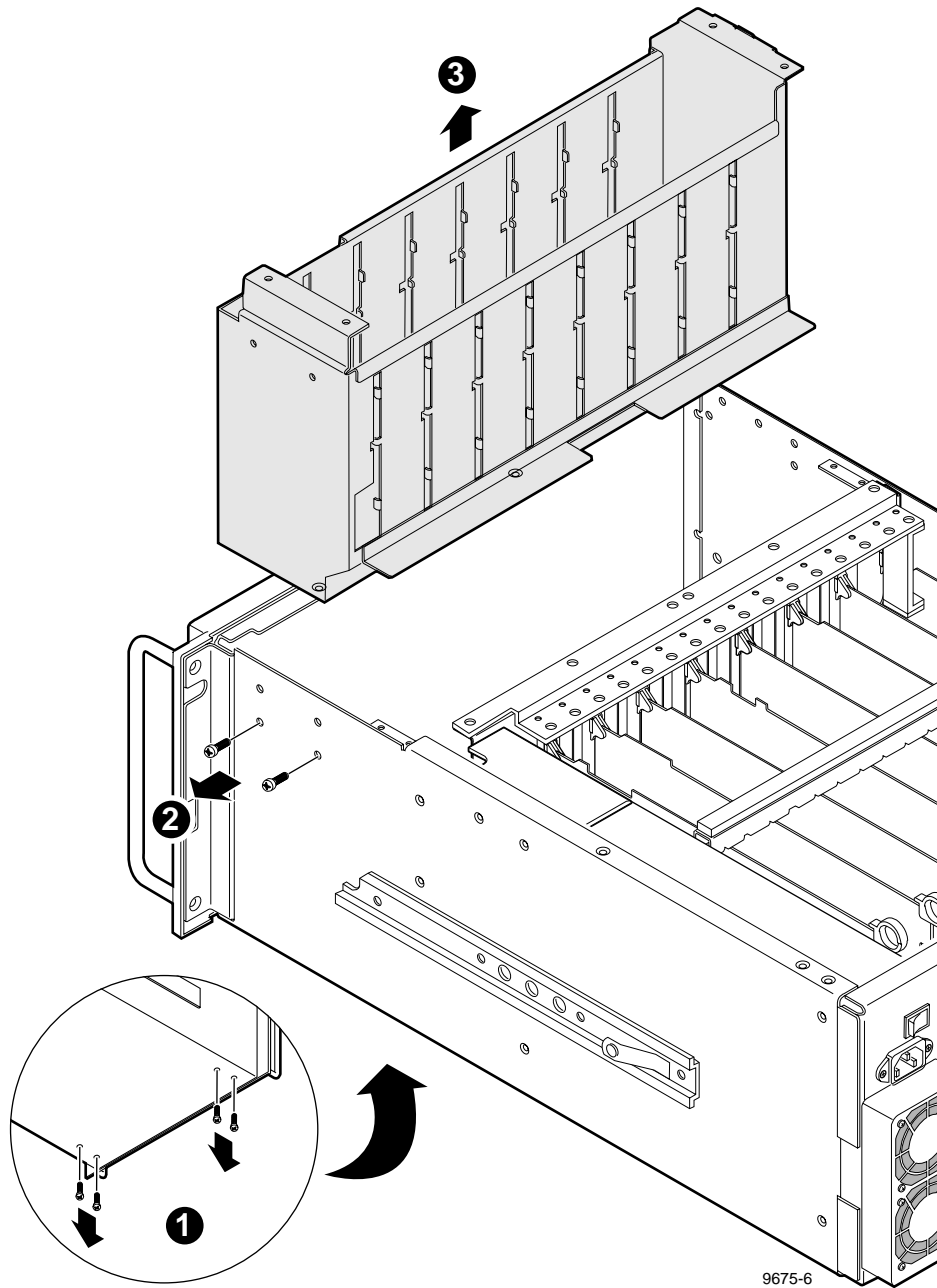

Figure 6-12. Media Disk Drive Tray Removal
4. Use the Torx tool with the T10 tip to remove the disk drive tray mounting screws from the bottom of the chassis (1 in Figure 6-12).
5. Use the Torx tool with the T15 tip to remove the disk drive tray mounting screws from the right side of the chassis (2 in Figure 6-12). (The screws on the left side were removed when the cover was removed.)
6. Being careful of cabling, lift the disk drive tray up and out of the chassis (3 in Figure 6-12).
1. Being careful of cabling, position the disk drive tray in the chassis (Figure 6-12).
3. Use the Torx tool with the T10 tip to attach the disk drive tray mounting screws from the bottom of the chassis (Figure 6-12).